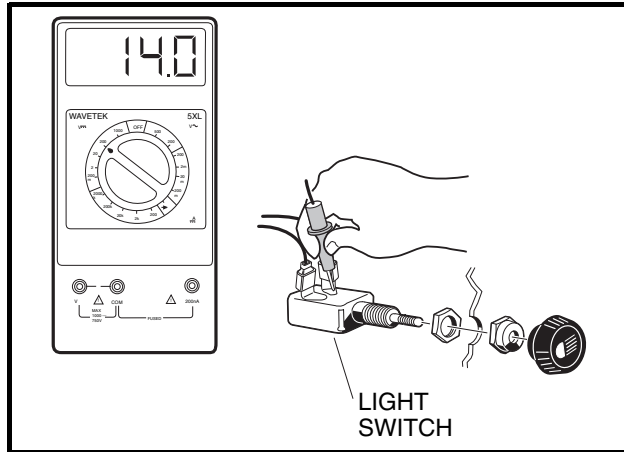

Figure 11-43 Light Switch Test
4. Using a multimeter set on 20 volts DC, place alligator clips on the multimeter probes. Connect the red (+) probe to the light switch terminal with the blue wire connected to it (**Figure 11-43, Page 11-39**).